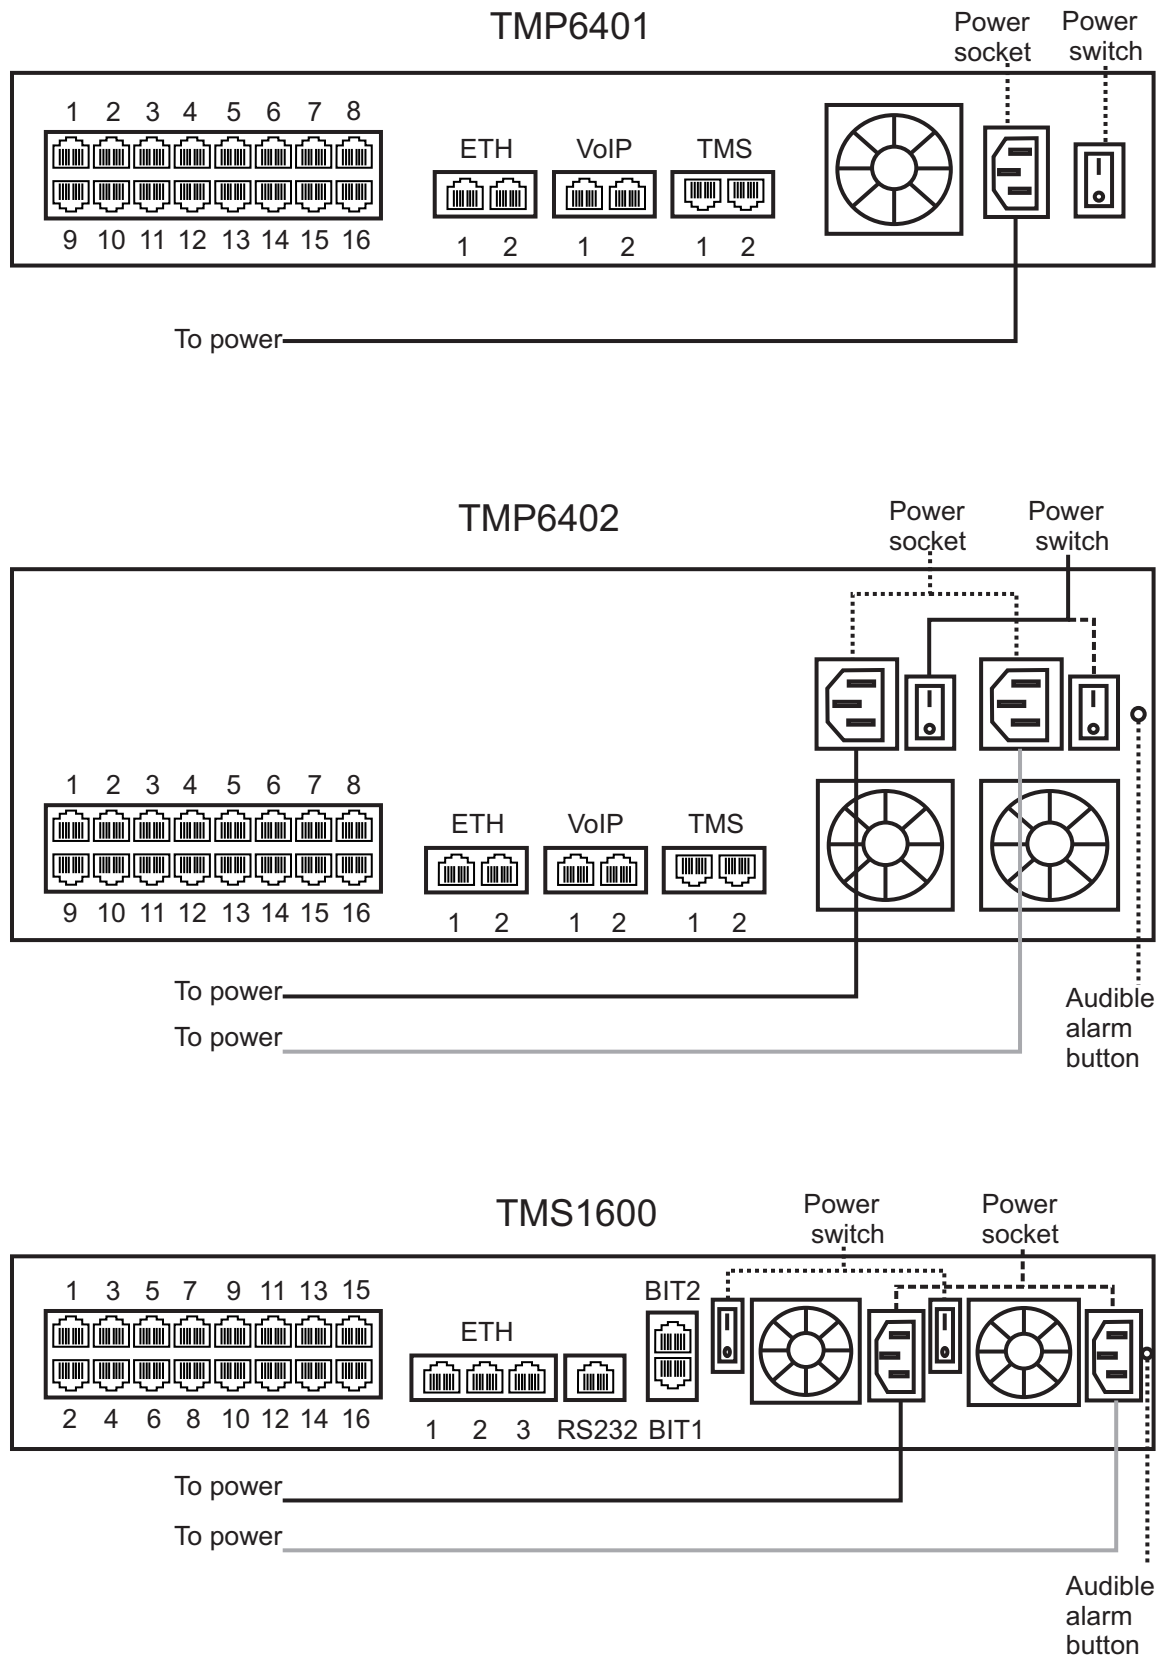

Figure 2.15 AC Power Connection
The Tmedia units are furnished with one or optionally two AC power connectors (figure 2.15 on page 27).
1. Connect one AC power cable between the AC connector of the Tmedia unit and an AC supply. See figure 2.15 on page 27. If the Tmedia unit features a second AC connector, connect an additional AC power cable between this connector and an AC power supply. If the Tmedia unit features a second power supply and it is not connected to an AC power source, press the green button located at the rear of the unit to disable the audible alarm. See figure 2.15 on page 27. For a TMS1600, if a second power source is not connected, press the red button at the rear of the unit to disable the audible alarm.